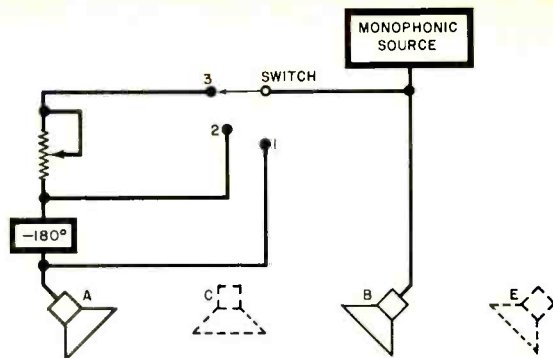

Fig. 5. Influence of phase reversal and level difference on fused-image location is shown.
Another experiment cited by Gardner shows to what extent phase differences can extend the range of sound-source localizations provided by a conventional stereo system. In the setup shown in Fig. 5, the phase of the signal going to speaker A can be reversed, in which case the phantom sound source (assuming the listener is positioned equidistant from the two speakers) shifts from a point directly ahead (C) to one directly behind (D). Switch position 3, which introduces some variable attenuation into channel A, enables one to achieve intermediate effects; locating the phantom source at E, for example. It would appear that, if you are willing to sit in the right spot and keep your head perfectly still, you can have "surround sound" from just two speakers. Again, this was confirmed by studies in Japan (Matsudaira and Fukami, in *JAES*, December 1973), although the researchers were inclined to attribute the rear localizations to contributions of the listening room.